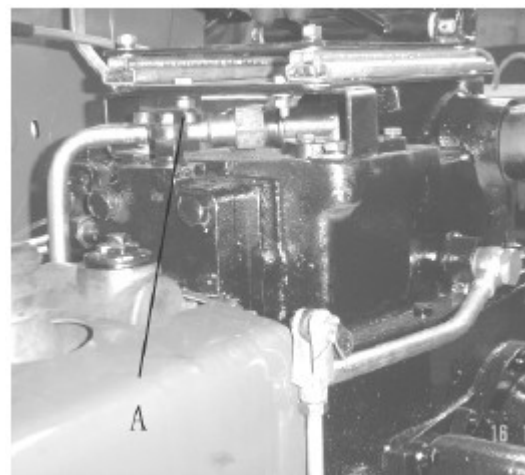

Figure 3-15 - Regulator valve
- Rotate the regulating valve A counterclockwise, and then the falling speed of the farm implements will speed up. (as shown in Figure 3-15)